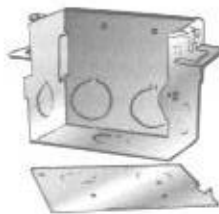

Fig. 9-1 A typical switch box used to house switches, receptacles, etc. The sides are removable.
**Switch boxes** The most common type of switch box is shown in Fig. 9-1. The mounting brackets on the ends of each box can be adjusted to bring the front of the box flush with the surface of the wall. Two “ears”